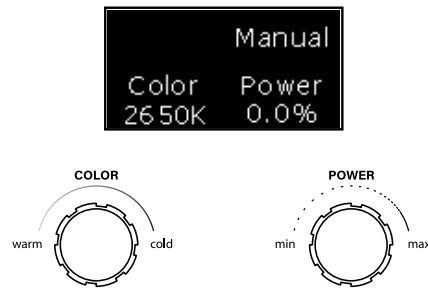

Fig. 16
1. After switching the unit on, you will see the main screen (Fig.16).